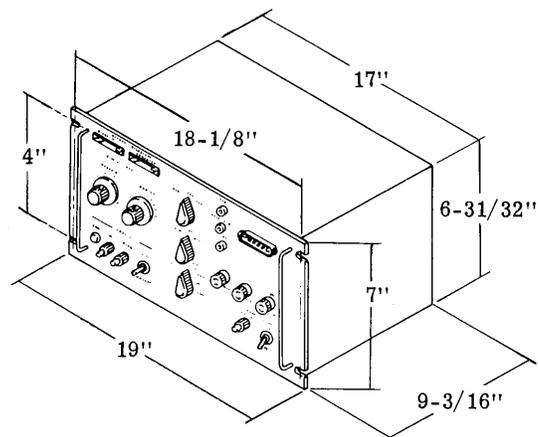

Figure 1 - Data Test Set 905C Dimensions
3.01 The data test set 905C is mounted on a standard 19-inch relay rack frame (Figure 1). Operating controls are all on the front panel.